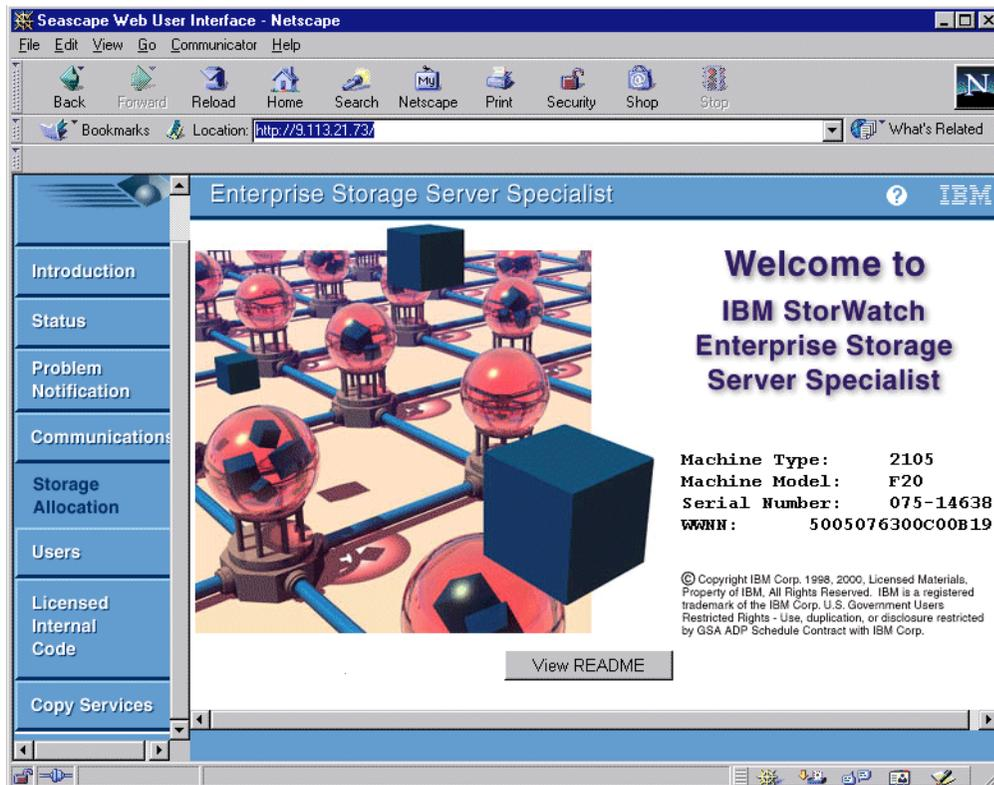

Figure 9. ESS Specialist welcome screen
1. Open your browser. On the location field, type in the IP address or hostname of any cluster on the ESS. This is with the assumption that both clusters have the ESS Specialist enabled (which is the default). This brings up the ESS Specialist welcome screen as seen in Figure 9.
1. From the Main Menu, go to **Storage Allocation** (refer to Figure 9 on page 21).